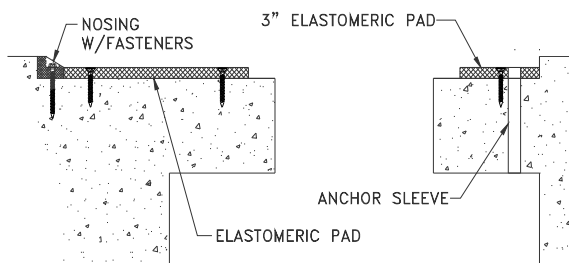

Figure 16
**STEP 33.** For nosing installations using mechanical fasteners, affix the nosing to the concrete, using the fasteners provided by the factory. Ensure that the nosing is straight, level, and properly aligned (see Figure 16). Repeat the applicable procedures above, Step 27 through Step 33, for each section of the nosing until all the nosing has been installed.